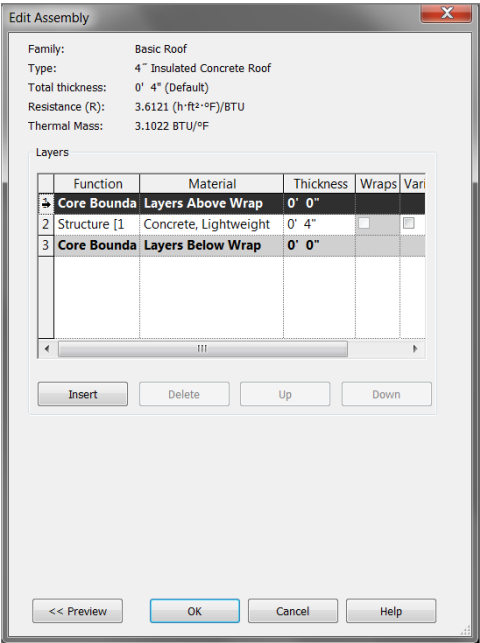

FIGURE 7.5: Changing the material and adding a layer
- 8. Change the structure Thickness to 4" (100mm), as shown in Figure 7.5.
9. Insert a new layer above the core boundary. (You do this by clicking the number on the left side of the Layers Above Wrap row and clicking the Insert button below the Layers section, as shown in Figure 7.5.)